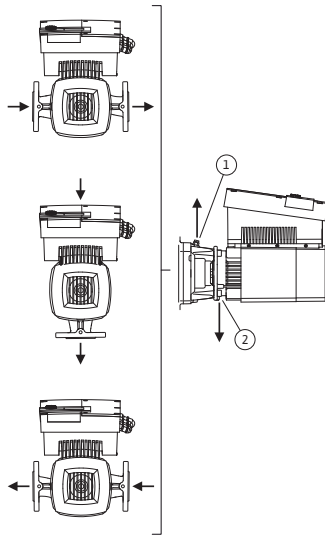

Fig. 23: Permitted installation positions with horizontal motor shaft
The permitted installation positions with horizontal motor shaft and electronic module facing up (0°) are shown in Fig. 23. The permissible installation positions with electronic module mounted on the side ($\pm 90^\circ$) are not shown. Any installation position is allowed except for “electronic module facing down” (-180°). The venting of the pump is only ensured when the air vent valve is pointing upwards (Fig. 23, Item 1).
Only in this position (0°) can condensate be directed away via an existing drilled hole, pump lantern and motor (Fig. 23, Item 2).
- With a horizontal motor shaft, the condensate hole must be positioned towards the bottom (Fig 23, Item 2). If necessary, the motor must be turned accordingly.